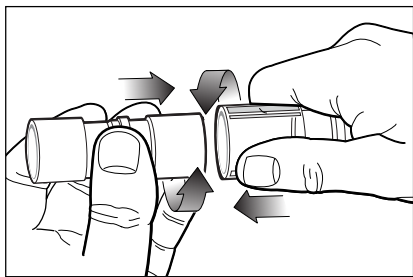

Fig. 1 / Figure 1. / Abbildung 1. / Figura 1. / Figur 1. / Kuva 1. / Εικόνα 1. / 1 pav. / Rysunek 1. / Рис. 1. /
Attach the breathing system to the fresh gas outlet of the anaesthetic machine using a push and twist action (Fig. 1).
4. When connecting or disconnecting the system, use a push and twist action. (Fig. 1)